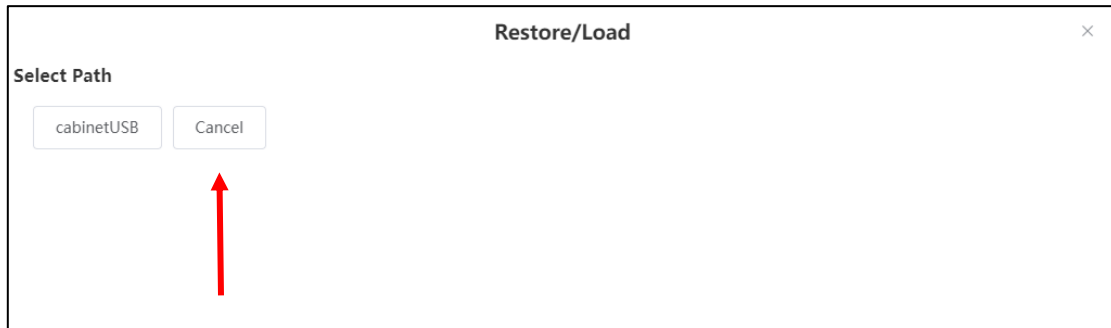

Fig. 7.2 Path Selection Interface
3. Select the path and specific operating directory, as shown in Fig. 7.2 and 7.3. If necessary, create or edit folders.